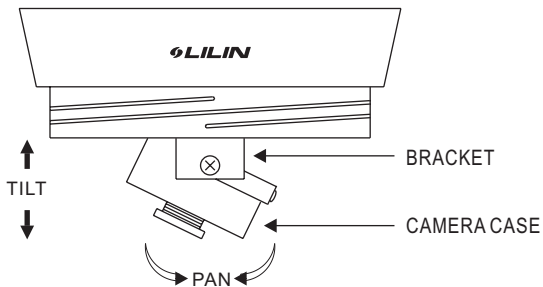
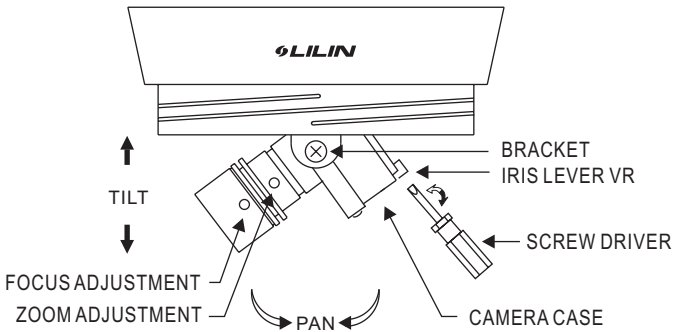

FIG. 2 (PIH-2622/2642)
FIG. 3 (PIH-2622X/2642X)
2. The direction of the lens is adjustable through the adjustable Pan/Tilt brackets and rotatable camera case. The lens can be adjusted easily by hand without using screw driver. Please refer to FIG.2 (PIH-2622/2642) and FIG.3 (PIH-2622X/2642X).
4. Adjust DC iris level by turning the iris level VR. Please refer to FIG.3.